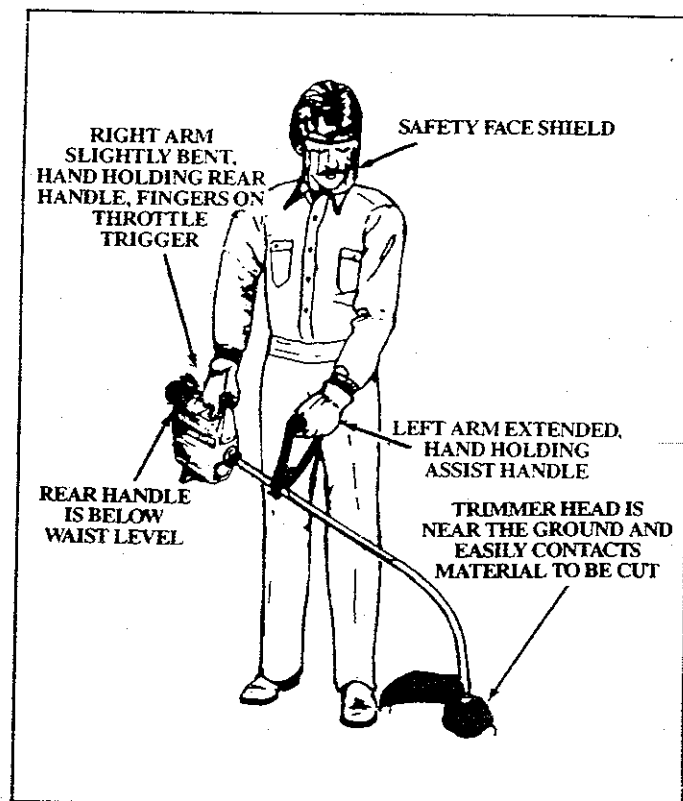

Figure 6
5. OPERATING POSITION — Figure 6
- Before starting the Engine**, stand as shown in Figure 6 and check for the following: